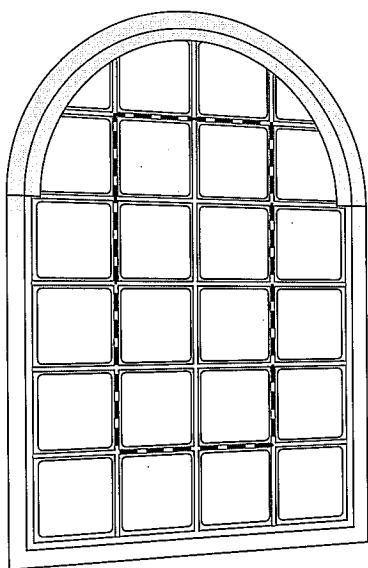

figure 2
2. Remove all of the blocks from the window by first making four cuts with a reciprocating saw between the outer blocks (figure 2). Carefully pry out the center section of blocks with a screwdriver.